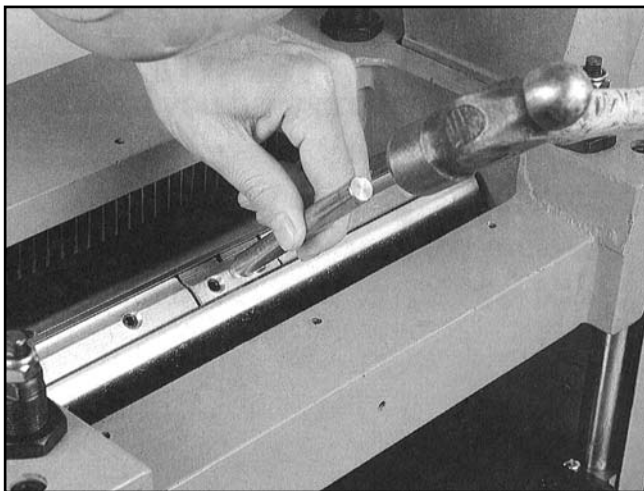
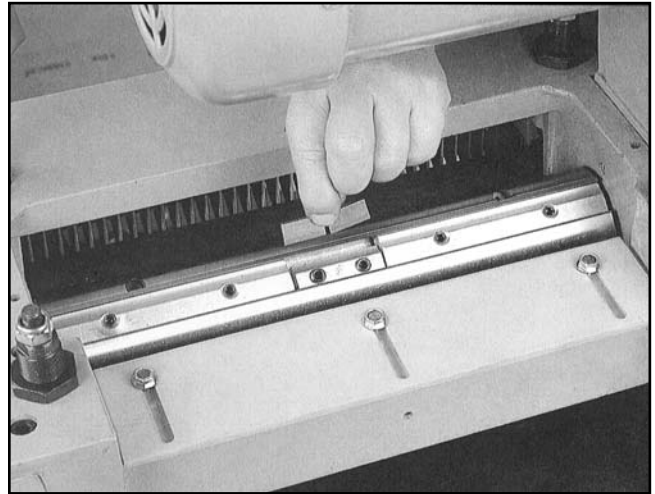

Figure 13.
Figure 14.
1. To Remove the wedge piece, loosen the gib screws in the center gib using an Allen wrench. Use the included brass punch and tap the gib down into the cutterhead slot. **Figure 13.** The wedge will then be loose and can be removed. **Figure 14.** The gibs can also be moved so the moulding cutters can be installed on either end of the cutterhead.